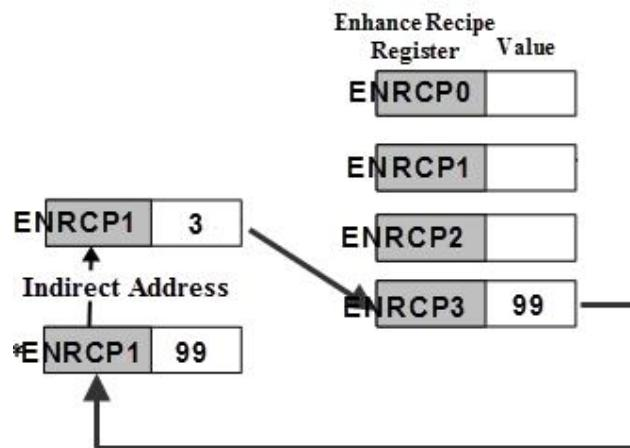

Figure 23-5-1 Enhance Indirect Recipe Index
*ENRCPn acquires the value from ENRCPn and regards it as the new address. Then, access the value from new address. For example, if ENRCP1 = 3 and ENRCP3 = 99, then *ENRCP1= 99. See figure 23-5-1.